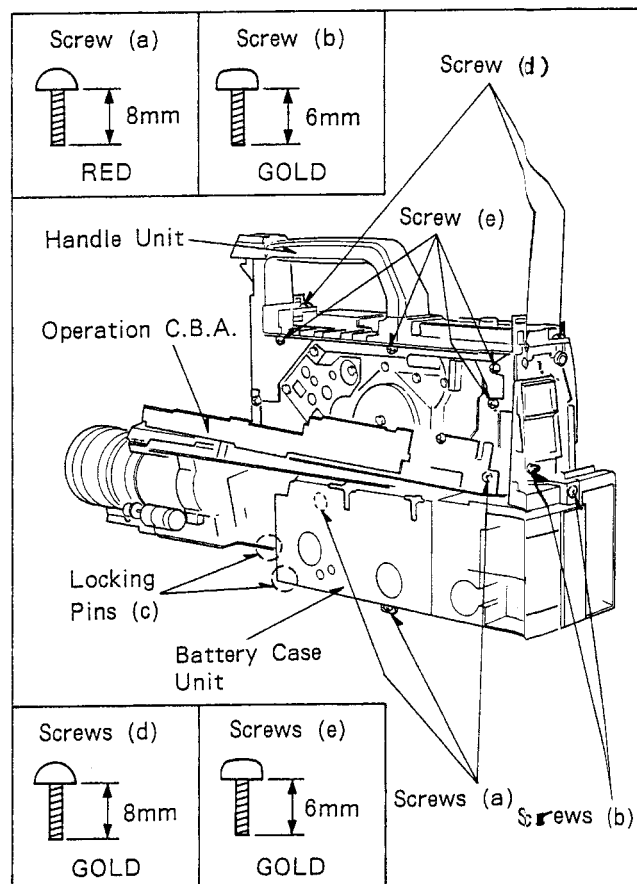

Fig. D12
- (1) Open the Operation/Main C.B.A. shown in Fig. D12.
- (2) Remove 3 Screws (a) and 2 Screws (b). Then lift the Battery Case Unit slightly in order to release it from 2 Locking Pins (c).
- (3) Loosen wires located around the Battery Case Unit.
- (1) Remove 4 Screws (d) and 3 Screws (e) shown in Fig. D12.
- (2) Remove the Handle Unit.